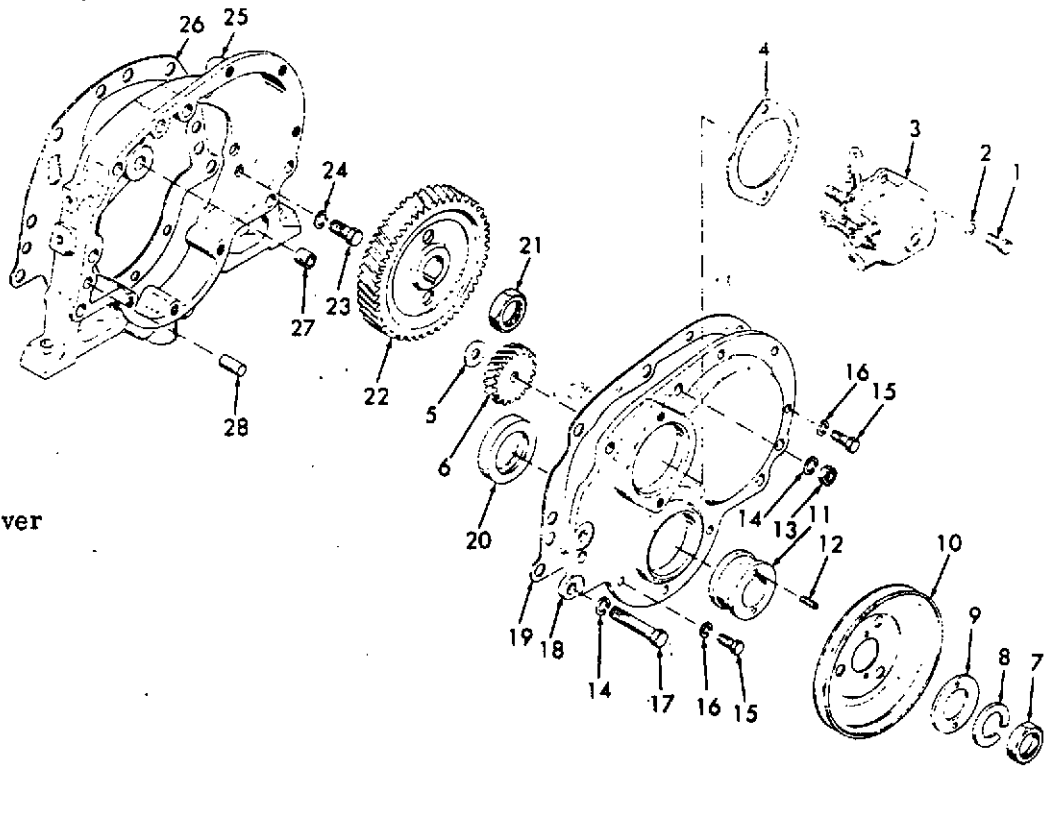
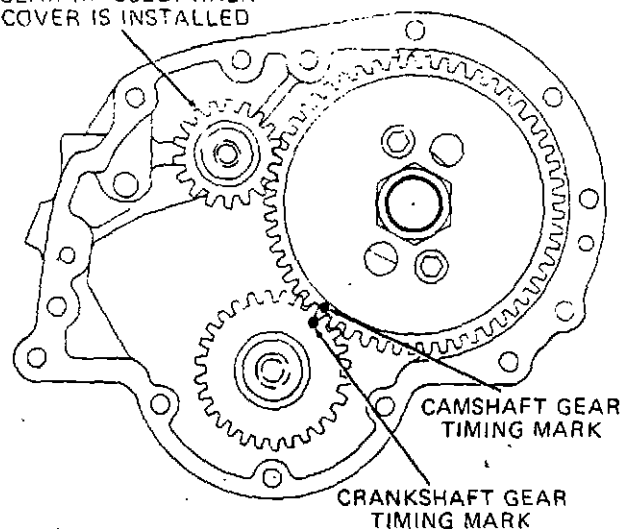
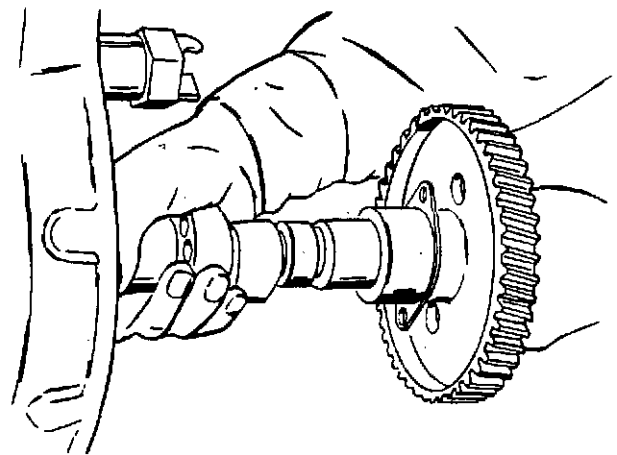
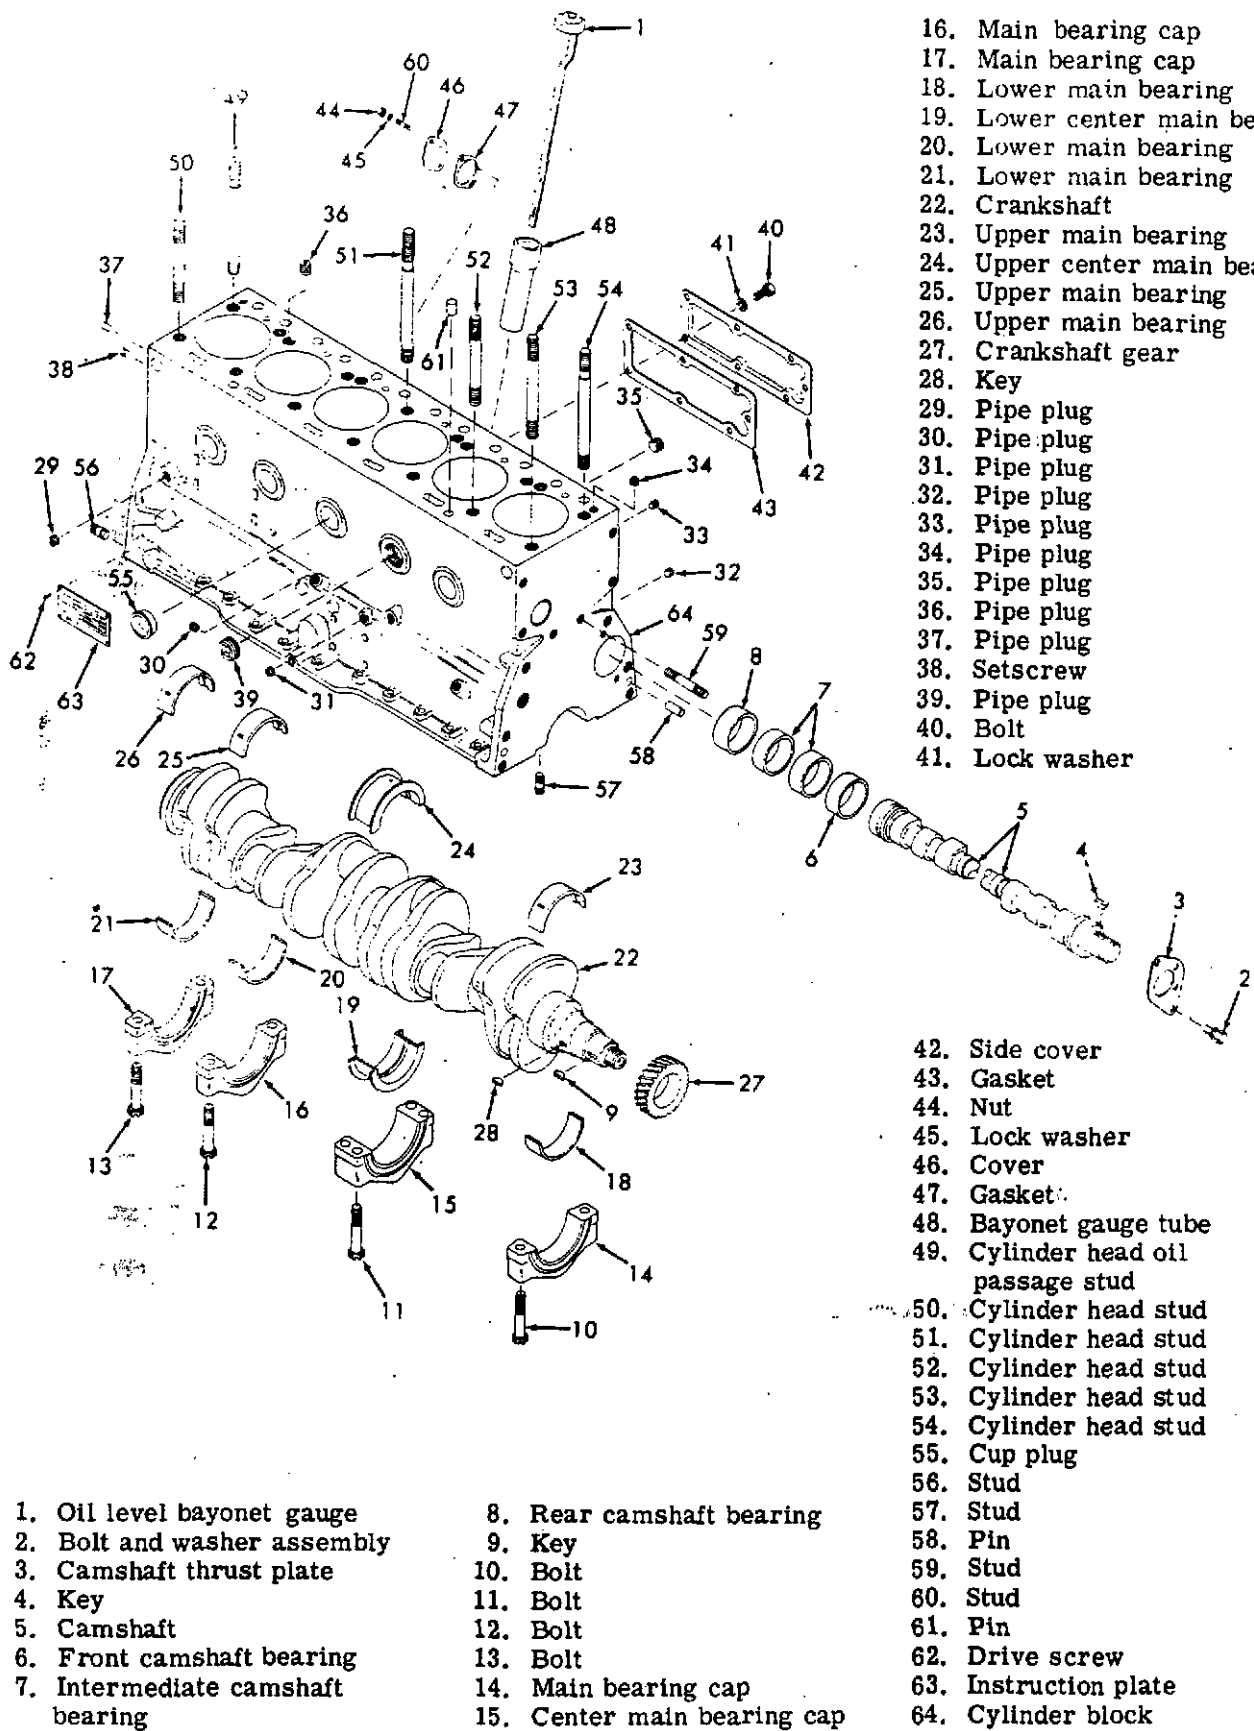

Figure 5-30. Gear Housing and Gears, Exploded View
Figure 5-31. Aligning Camshaft and Crankshaft Gear Timing Marks
Figure 5-34. Camshaft and Thrust Plate Removal
Figure 5-35. Cylinder Block, Exploded View
4. Remove the nut (7, figure 5-30) and lock washer (8) which secure the pulley (10) and hub (11) to the crankshaft. Pull off the washer (9) and separate the pulley (10) from the hub (11).
(d) Remove the camshaft nut (21, figure 5-30). To keep the shaft from turning, insert a brass bar between crankshaft gear and camshaft gear. Using a standard foot-type puller inserted in holes in gear, pull the camshaft gear (22) from the camshaft.
6. Inspect the governor shaft bushing (27, figure 5-30) for scoring and wear. If it must be replaced, screw a pipe tap into the bushing and pull it from the bore in the gear housing. Press in a new bushing until it is flush with the surface of the housing.
(a) Cement a new gasket (26, figure 5-30) to the gear housing (25). Allow the cement to set enough to prevent the gasket from slipping at installation.
(f) Install the camshaft gear (22, figure 5-30) on the camshaft, aligning the timing mark with timing mark on the crankshaft gear (see figure 5-31). Insert a brass bar between the camshaft and crankshaft gears. Pull down and secure the gear with the camshaft nut (21, figure 5-30). Tighten the nut to 125 to 135 foot-pounds torque.
2. Install a new oil seal (20, figure 5-30) in the gear housing cover (18), using a small amount of sealing compound in the bore before pressing in the seal. If new seal is pre-coated, sealing compound is not required. Cement a new gasket (19) to the gear housing cover.
4. Use a seal slip, if available, to protect the oil seal lips when installing the gear housing cover. If a seal slip is not available, carefully slide the gear housing cover over the end of the crankshaft to prevent damage to the seal lips. Secure the cover with nut (13), cap screws (15 and 17), and lock washers (14 and 16).
5. Install the key in the crankshaft keyway. Start the pulley hub (11) onto the end of the crankshaft and carefully drive it on. Install the pulley (10), washer (9), and lock washer (8) on the
12. Remove the thrust plate mounting bolt and washer assembly (2, figure 5-35) and pull the camshaft out of the cylinder block as shown in figure 5-34.
13. Remove the camshaft bearings (6, 7, and 8, figure 5-35). If they cannot be withdrawn by hand, drive out the camshaft bearings with a brass drift. If difficulties are encountered removing the rear camshaft bearing, it may be necessary to remove the bellhousing.
14. If it is necessary to remove the camshaft gear (22, figure 5-30) from the camshaft, remove the nut (21), place the shaft in an arbor press and, with suitable supports under the gear, press the shaft out of the gear. Remove woodruff key (4, figure 5-35) from camshaft and remove the camshaft thrust plate (3).
1. Install the front, rear, and intermediate camshaft bearings (6, 7, and 8, figure 5-35) in the cylinder block. Replacement camshaft bearings are precision cut and no line reaming is required. When installing, make sure the oil holes in the bearings are aligned with the oil holes in the drilled passageways in the cylinder block. Tap bearings into place with a bearing driver.
3. If the camshaft gear was removed from the camshaft, place the thrust plate (3, figure 5-35) on the camshaft (5) and press the gear onto the camshaft with woodruff key (4) in place. Secure with nut (21, figure 5-30). Make certain all tappets are in the raised position. Carefully insert the assembled camshaft into the cylinder block, aligning the timing marks on the camshaft gear with the timing marks on the crankshaft gear to ensure correct timing of the valves (see figure 5-31).
4. Secure the thrust plate to the cylinder block with two bolt and washer assemblies (2, figure 5-35). Check the camshaft end play. Normal end play is 0.005 to 0.008 inch and shall not exceed 0.012 inch. If the end play is not within limits, the thrust plate or camshaft gear, or both, are excessively worn and must be replaced. Check the backlash of the camshaft gear to the crankshaft gear. The backlash must be 0.0015 to 0.0025 inch.